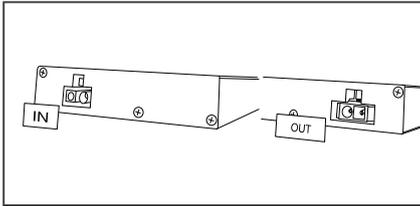

Figure 2
-Input Panel Cover can be removed to plug in 6' Power Cord for connection to 120V polarized outlet. The 18" Linking Cord is used to link fixtures together. The Output Panel Cover can be removed to plug in the other side of the 18" Linking Cord to link fixtures together. (See Figure2.)
2. Attach fixture to cabinet or wall by tightening screws securely. Insert screw plugs for a clean installation. Connect 6' Power cord to the Input port after removing Input Panel Cover. (See Figure 2.)